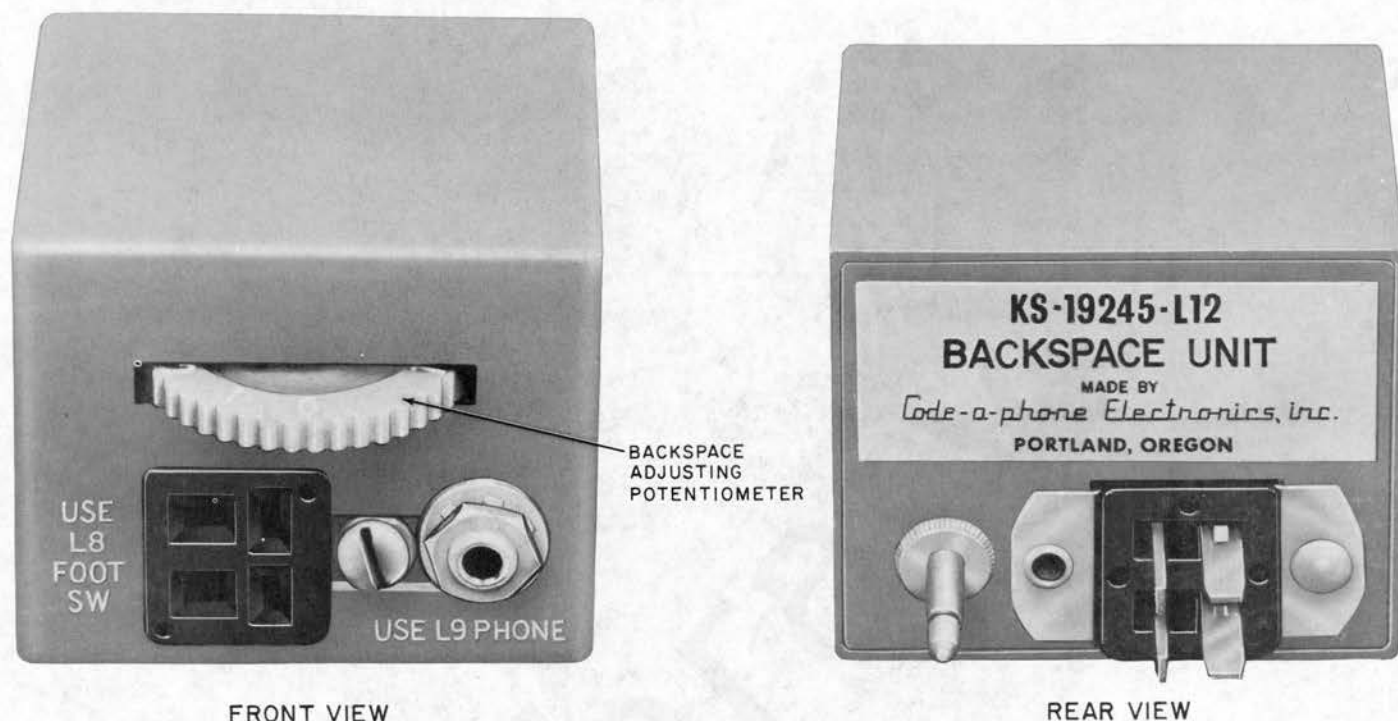

Fig. 18—KS-19245, List 12 Backspace Unit
(c) The KS-19245, List 12 Backspace Unit (Fig. 18), allows automatic backspacing of the message tape a few words each time the
4.17 Backspace Unit KS-19245, List 12 (Fig. 18):